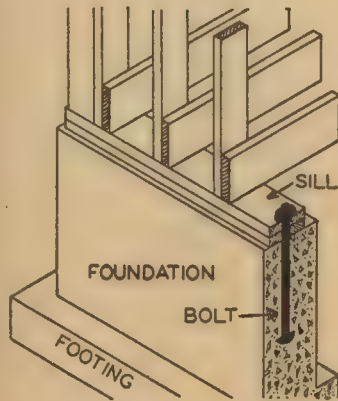

FIGURE 1
**SILLS:**—The sills shall be of the type shown on the plans. Sills shall be securely bolted to the foundation by means of  $\frac{3}{4}$ -inch bolts placed every 8 feet and embedded at least 18 inches in the concrete. (*See Figure 1.*)